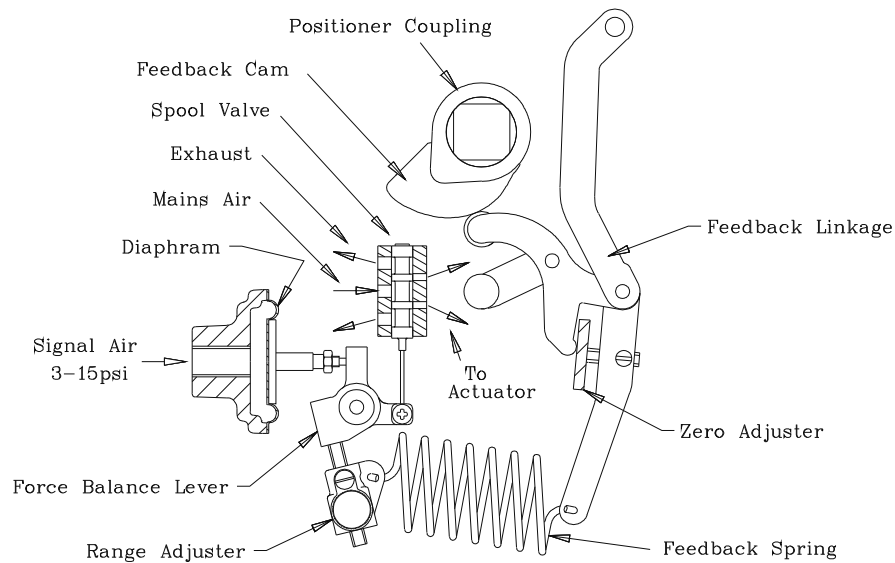

FIGURE 4. PRINCIPAL OF OPERATION.
## 4.2 Zero and Range Adjustment (refer to Figure 4).
b.) adjustment of the built in flow restrictors (shown in Figure 4) is achieved using a screwdriver. There are two restrictors, one for each direction of travel. Clockwise rotation, this will reduce the actuator speed. 'AP' and 'MP' size units with 1/8 or 1/4 ports are controlled in this way but 'HP' size units having 3/8 ports are fitted with external silencer/restrictors which are adjusted using an allen key fitted down the centre of the adjuster.